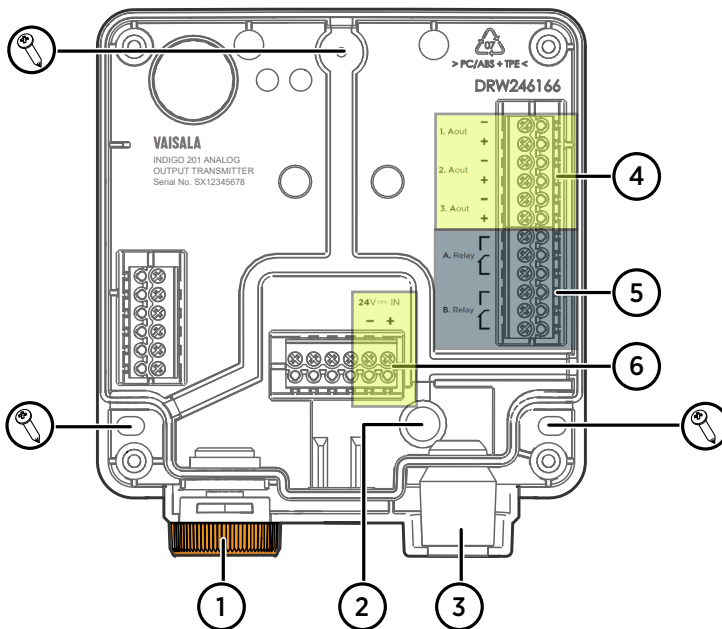

Figure 7 Indigo 201 transmitter base main parts and mounting screw positions
5. Place the transmitter base on the installation surface and mount it with 3 screws. See the screw positions in Figure 7 \(page 18\).